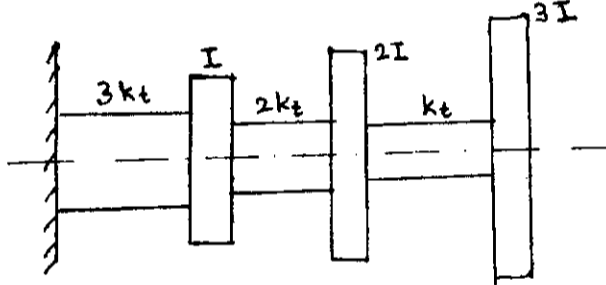

Fig.Q7(b)
- b. Using Stodola's method, determine the lowest natural frequency of the torsional system shown in Fig.Q7(b). (10 Marks)